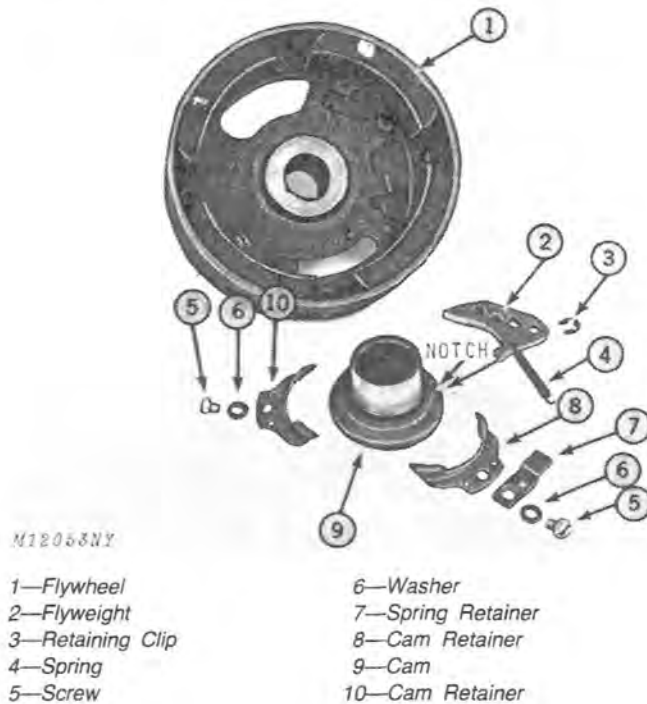

Fig. 43-Bosch Flywheel Assembly
To replace cam (9, Fig. 43) remove screws (5) and washers (6), spring retainer (7) and cam retainers (8 and 10) and lift out cam. Inspect cam, spring retainer and cam retainers for wear or damage. Replace as necessary.
NOTE: When installing either cam (9) or flyweight (2) be sure protrusion on flyweight is properly positioned in notch of cam, Fig. 43.
NOTE: On Kohler engines it is possible to adjust points with flywheel removed by installing cam (9, Fig. 43) from flywheel to crankshaft.